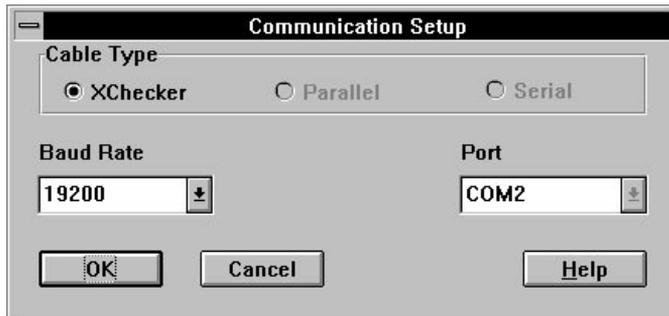

Figure 4-3 Communication Setup Dialog Box
1. Select the **Communications** option from the Cable menu to invoke the Communication Setup dialog box, shown in Figure 4-3.